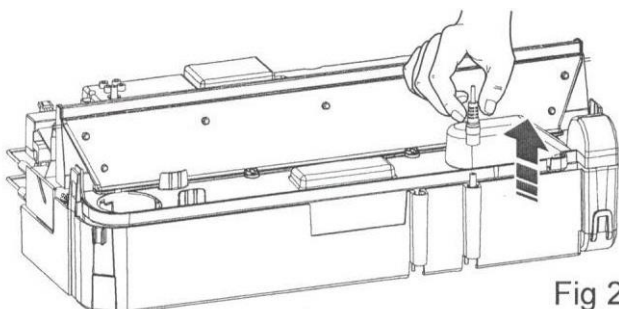

Fig 23
4. Disconnect the electrical connector to the transducers, located on the right side of the sump (Fig. 23).